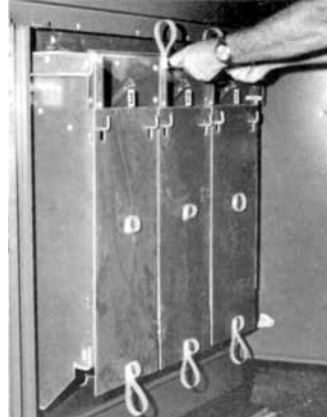

Figure 6
5. Grasp nylon pull loops located at upper corners of viewing window and withdraw barrier assembly approximately 12 inches. (Figure 6)
1. Disengage security bolts at the top of the B4/B5 barrier. See Figure 6.